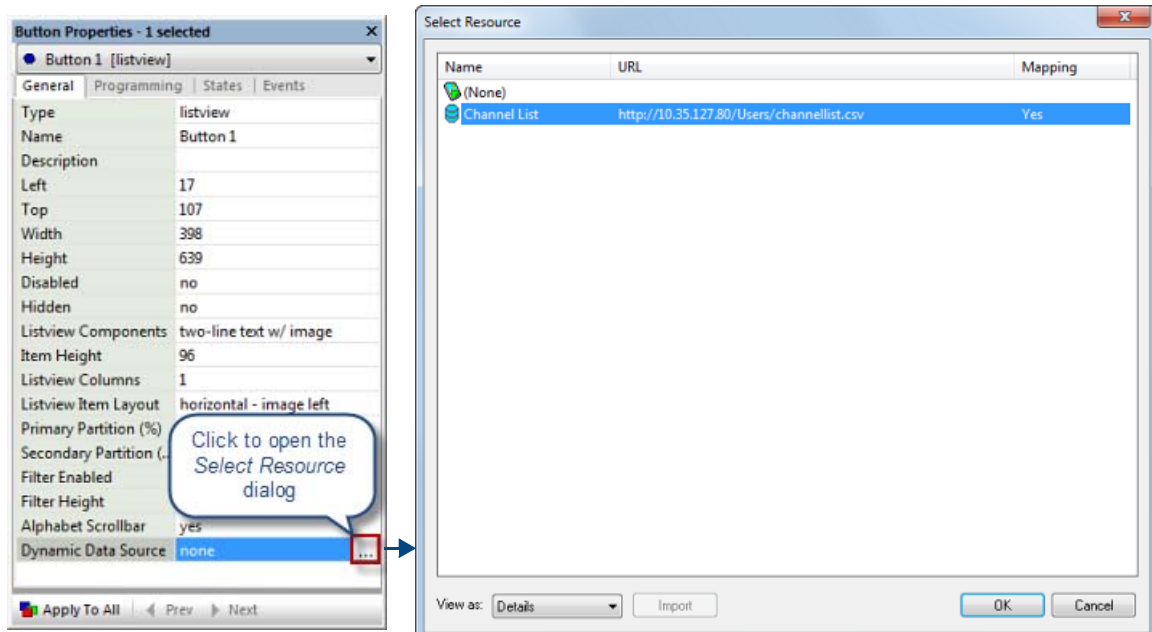

FIG. 148 Dynamic Data Source (General) Property and Select Resource dialog
1. With the Listview button selected, click the browse button in the **Dynamic Data Source** (General) property to open the *Select Resource* dialog (FIG. 148):